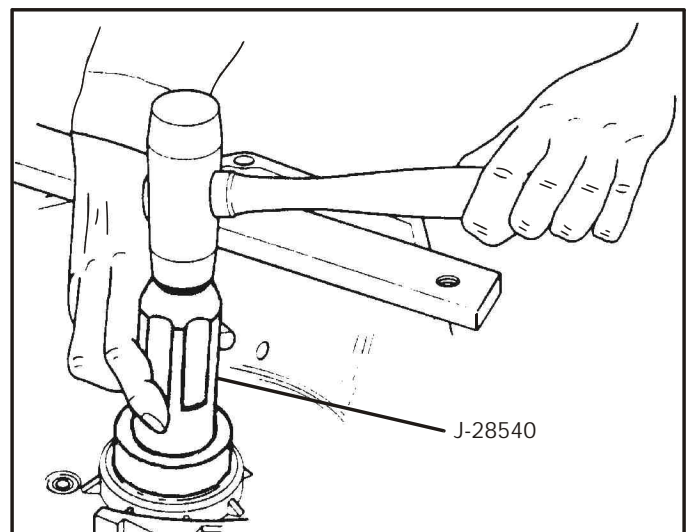

Figure 82
6. Install a new converter seal into case using tool J-28540 and a mallet, as shown in Figure 82.